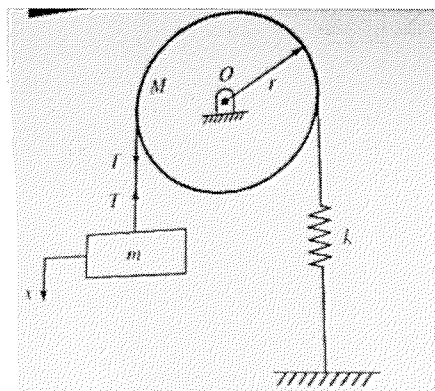

Figure 1
4. Determine the natural frequency of the given mechanical system in figure 1 below.